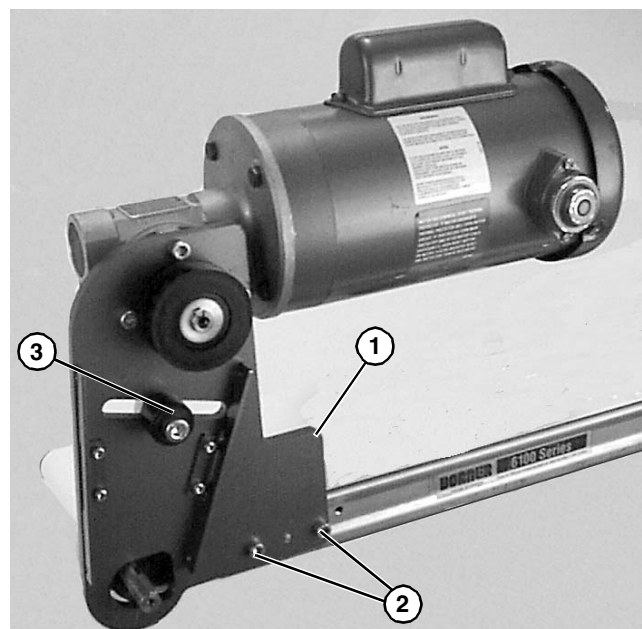
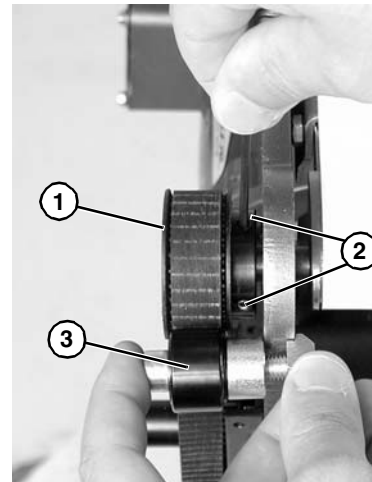

Figure 18
Figure 20
6. Attach mount assembly (**Figure 18, item 1**) with screws (**Figure 18, item 2**). Tighten to 80 in-lb (9 N-m).
9. Remove cam bearing and spacer (Figure 18, item 3). Place the cam bearing and spacer (Figure 18, item 3) next to the driven pulley (Figure 20, item 1). Ensure the flanges of the driven pulley are aligned with the cam bearing. Tighten driven pulley set screws (Figure 20, item 2). This will allow for proper belt alignment while conveyor is in use. Replace cam bearing and spacer (Figure 20, item 3).